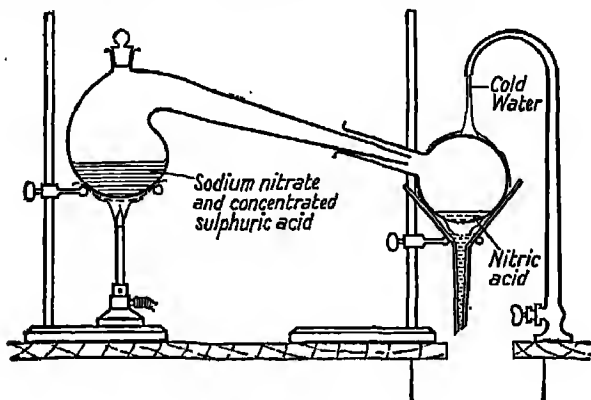

FIG. 122. Preparation of nitric acid.
**Expt. 188.** Fit up the apparatus illustrated in Fig. 122. Use potassium nitrate or sodium nitrate in the retort, and add concentrated sulphuric acid until the salt is well covered. Heat gently at first and never so strongly that much of the vapour is driven out of the retort. As the vapour travels down the neck of the retort it is condensed. The liquid is collected in the flask kept cool by cold